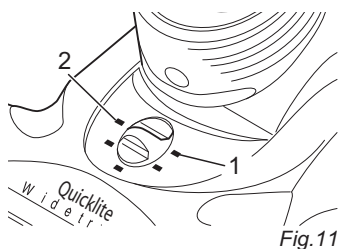

Fig.11
For short-pile carpets, hard flooring, laminate, tiles, PVC, etc. turn the control switch entirely to the right (Fig. 11/1).
For long-pile carpets, runners, etc. turn the control switch entirely to the left (Fig. 11/2).
3. Put the appliance into idle running mode. To do this, move the handle (Fig. 15/1) forwards until it audibly clicks into place and turn the control switch for setting the pile depth entirely to the right (Fig. 11/2).